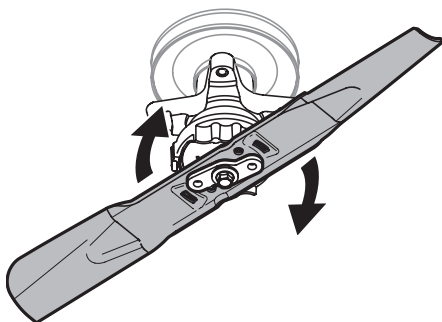

Figure 49
- Rotate the blade clockwise to align with the blade adapter. See Figure 49.